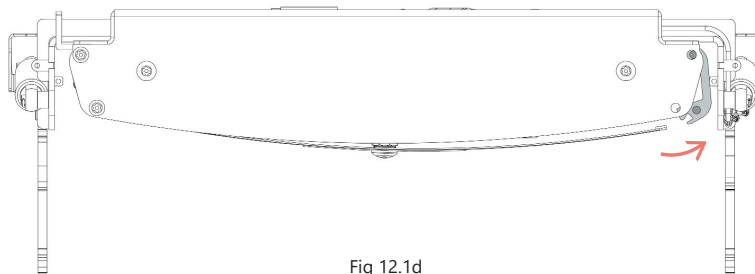

Fig 12.1d
- Looking from the top (Fig 12.1d) the aluminium beam can now freely rotate in order to release the front cover.